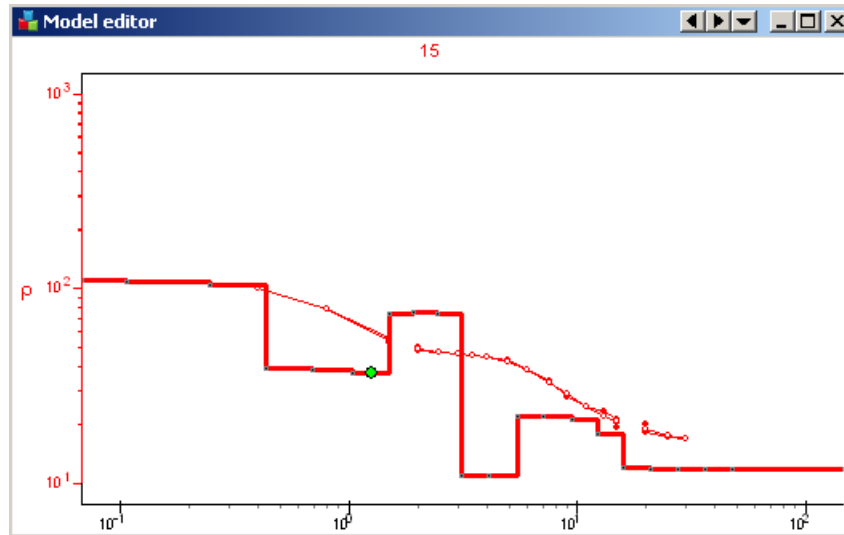

Fig. 38 Example of multilayered model
**Layers summarization** dialog is used to convert multilayered models obtained by Smooth or Focused inversion into simpler geological models which contain less layers. Multilayered model which consists of 14-20 layers is convenient at the beginning of interpretation (fig. 38).